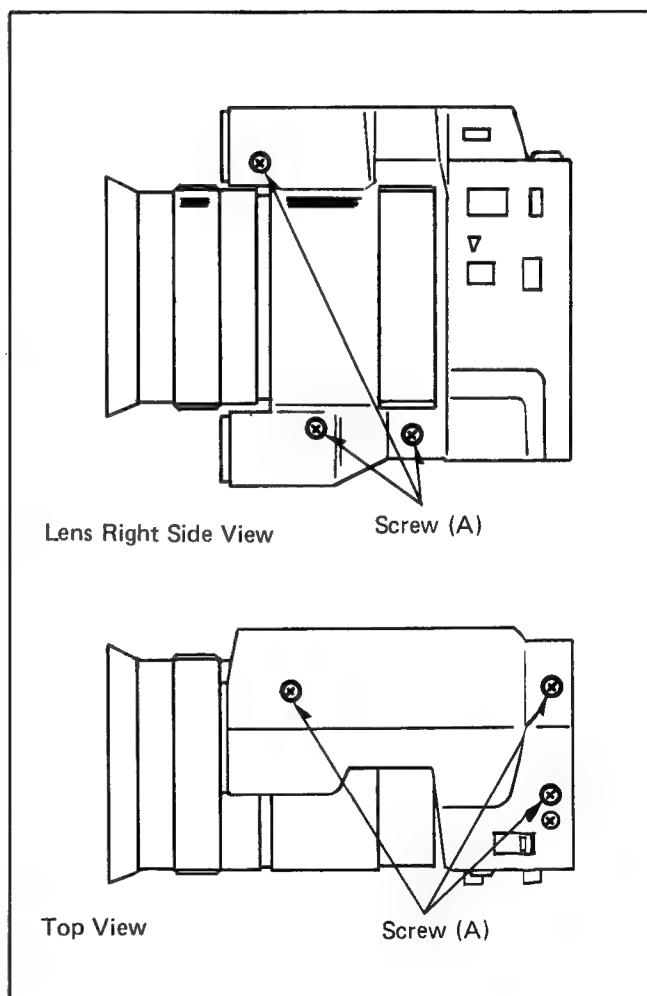

Fig. 15.
- 5-2. Unscrew 6 screws (A) and remove the A.F. cover (see Fig. 15).